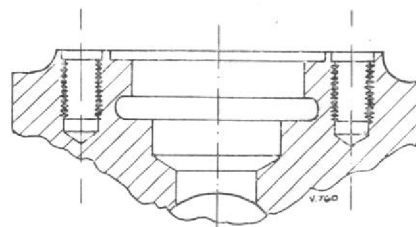

Fig. 2. Section A-A typical of all 2 B.A. stud holes
FOR SECTION A-A SEE FIG. 2
5. Remove any burrs from the edge of the tapped hole, blow out the hole and, using the appropriate inserting tool, screw in wire insert Part No. N.4951 to the bottom of the thread, Fig. 2. Break off, and remove, the notched tang of the insert.